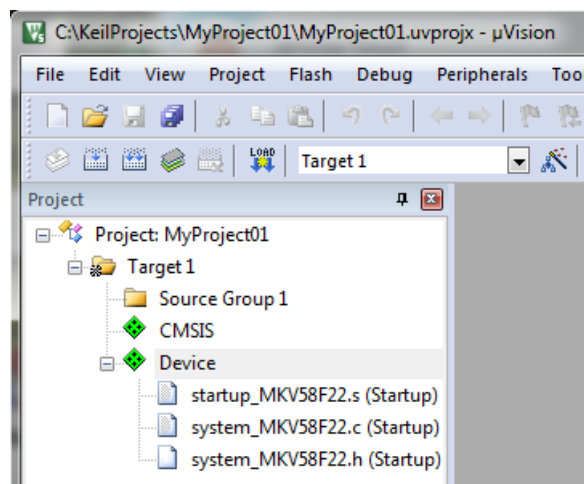

Figure 1-27. Project
- 10. Click OK, and a new project is created. The new project is now visible in the left-hand part of Keil µVision. See Figure 1-27.
13. Select Use Single Precision in the Floating Point Hardware option. See Figure 1-27.